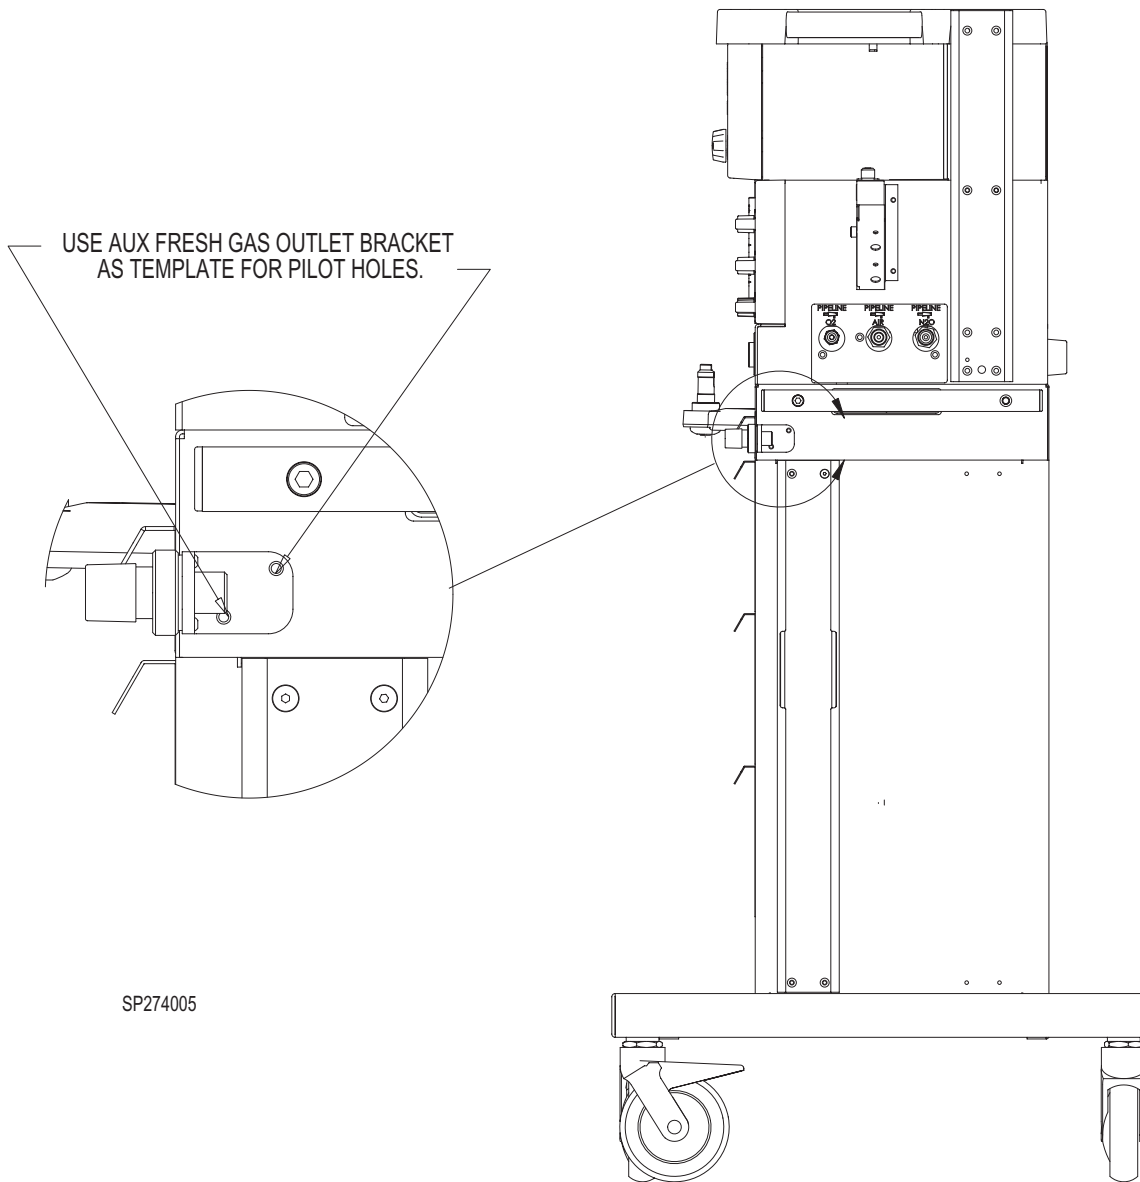

FIGURE 4. Right Side Trolley Mount Drilling Location
- 3.2.1.2 Verify the existence of mounting holes in the location shown in FIGURE 4. If mounting holes are present, proceed to step 3.2.1.4. If mounting holes are not present, proceed to following step.
- 3.2.1.3 Using a 5/32 (3.9 mm) drill bit, drill pilot holes in location shown in FIGURE 4. by using the Auxiliary Fresh Gas bracket as a template.